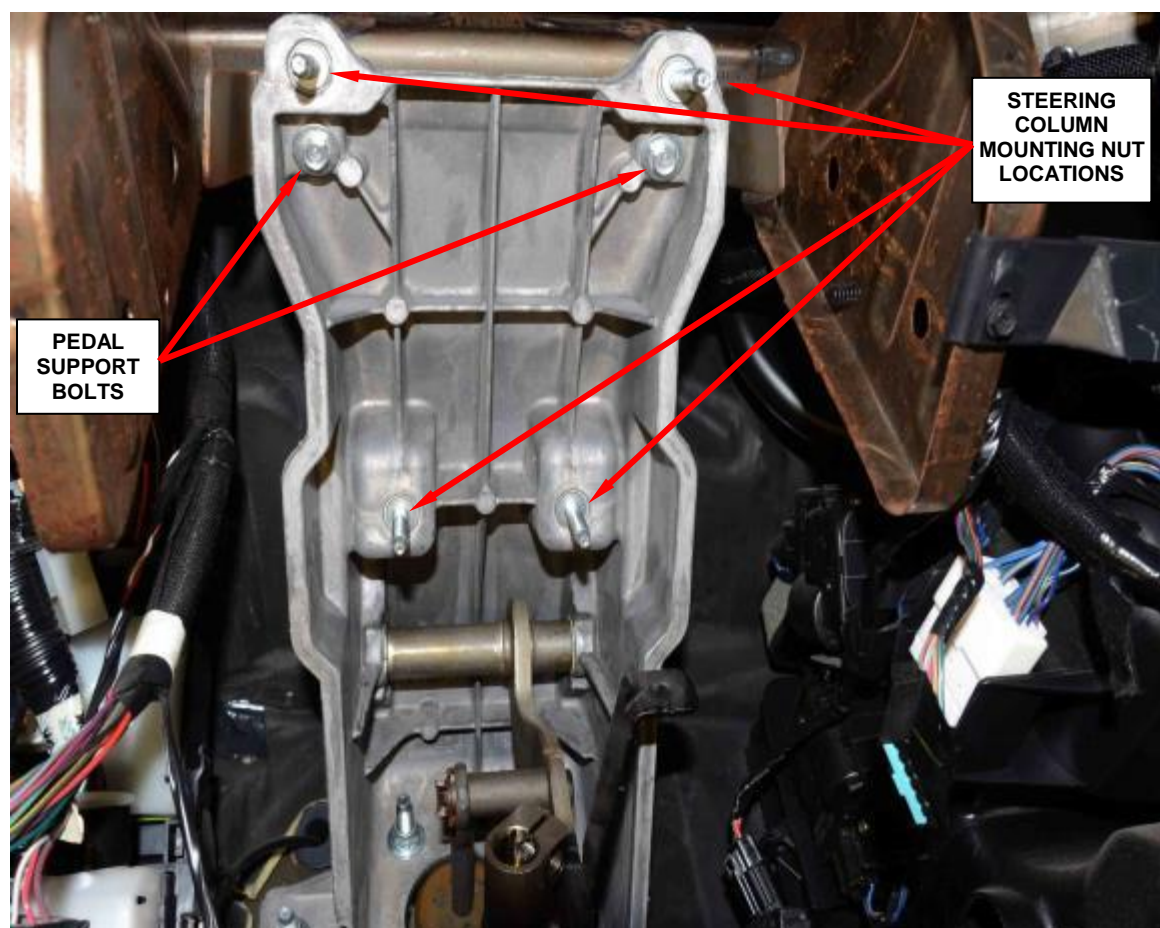

Figure 108 – Pedal Support Bolts
18. Remove the bolts from the pedal support (Figure 108).